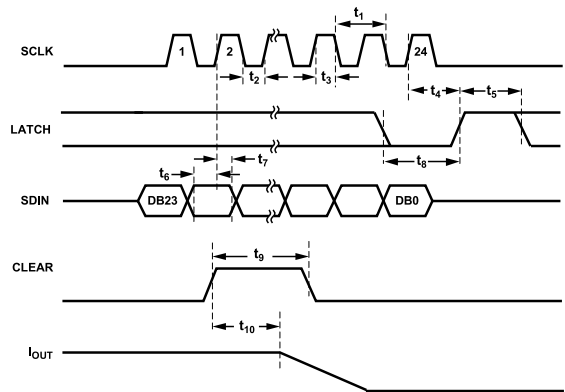
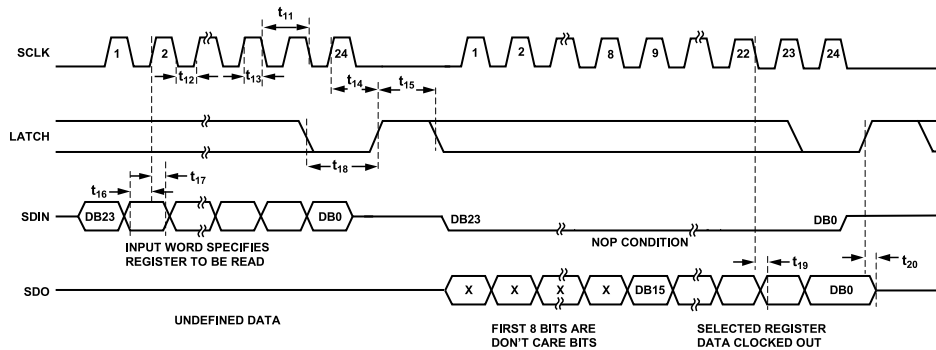
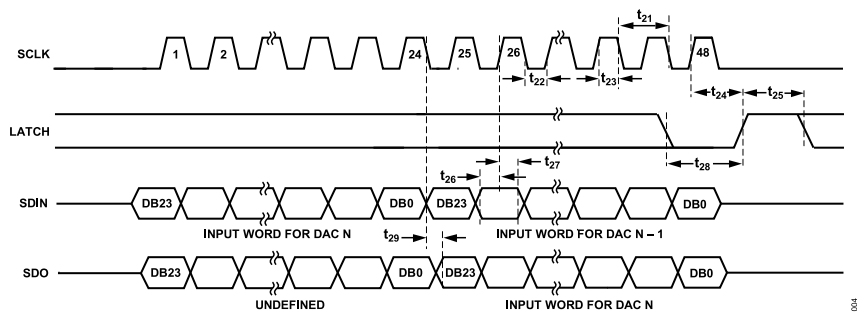

Figure 2. Write Mode Timing Diagram
Figure 3. Readback Mode Timing Diagram
Figure 4. Daisy-Chain Mode Timing Diagram
- ³ See Figure 2, Figure 3, and Figure 4.